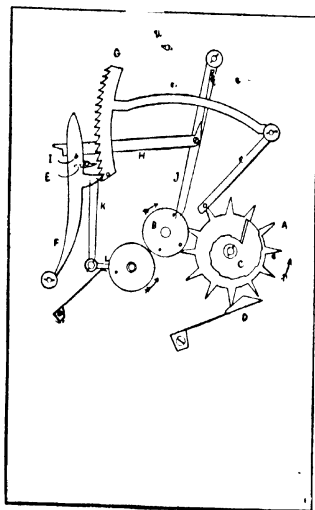
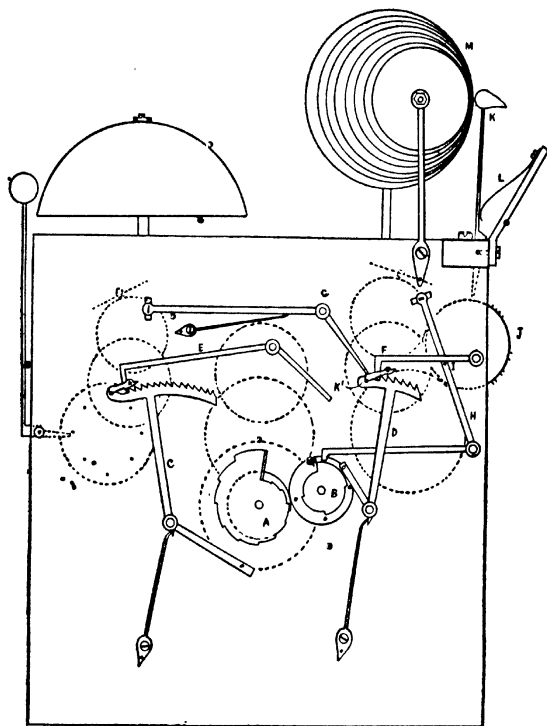

FIG. 83.—French Carriage-clock Rack-striking" Mechanism.
FIG 93.—English Three-Train Quarter Chiming Mechanism.
Fig. 83 shows the arrangement, and it is so good, simple, and certain, in action that it constitutes a considerable improvement on ordinary rack striking in any form of clock.
**Vienna Regulators** generally have rack-striking work similar in pattern to English clocks, and the snail is mounted on a star wheel like that in Fig. 83, so these will need no special reference.
Another system is that often seen in French carriage clocks and is a modification of the striking work shown in Fig. 83. It has the hour rack, the letting off-lever HJ, the rack detent F, the star wheel, hour snail and jumper exactly as there described. In addition it has a separate quarter snail upon the cannon pinion and a quarter rack which falls upon it. The quarter rack is on the same stud as the hour rack and just behind it. The same gathering pallet gathers both racks together, and the same detent F falls into and holds both racks.
The lever KL (Fig. 83) is in position to keep the hour rack from falling except at the hour, when a pin in the cannon pinion holds it down and lets the hour rack fall.
As each quarter comes round, the hour rack falls one tooth on to the top of K (Fig. 83), and the quarter rack falls upon the quarter snail. The gathering pallet comes round and gathers the hour rack up one tooth, but both hammers being
Fig. 93 shows the usual arrangement of an English quarter-chiming clock. It will be seen that there are two snails, two racks, two gathering pallets, and two warning levers, etc. The chime bells M are mounted upon a spindle supported by two
The circumference of the pin barrel is divided into five portions, in each is pinned a "chime." The barrel revolves twice per hour and for each tooth of the  $\frac{1}{4}$  rack gathered up, that is, for each revolution of the pallet wheel, one portion or section of the pin barrel passes under the hammer tails and one "chime" is struck. Thus, at the first quarter, the rack falls upon the first step of the  $\frac{1}{4}$  snail B (Fig. 93), one tooth is gathered up, and one chime struck. At the half-hour, the rack falls two teeth and two chimes are struck. At three-quarter hour, the rack falls three teeth and three chimes are struck. At the hour it falls four teeth and four chimes are struck. The sum of these, 1, 2, 3 and 4 = 10. As there are five chimes pinned on the barrel, that equals two revolutions. No. 1 chime is given at the first quarter, Nos. 2 and 3 at the half-hour, Nos. 4, 5, and 1 at three-quarter hour, and Nos. 2, 3, 4, and 5 at the hour.
Returning to Fig. 93, the hour snail A is mounted upon a star wheel moved by a pin in the cannon pinion, as described and shown in Fig. 83 or upon the hour wheel. The hour rack C is of the usual pattern and has its spring and gathering pallet. The hour rack hook E has a long tail. The warning lever G also has a long tail, and is kept up by a spring. When up it stops the warning pin. The quarter snail B is on the minute wheel, and has at its back four lifting pins which raise the quarter warning lever H. A pin, I, halfway up H raises the quarter rack hook F, and lets the quarter rack D fall.